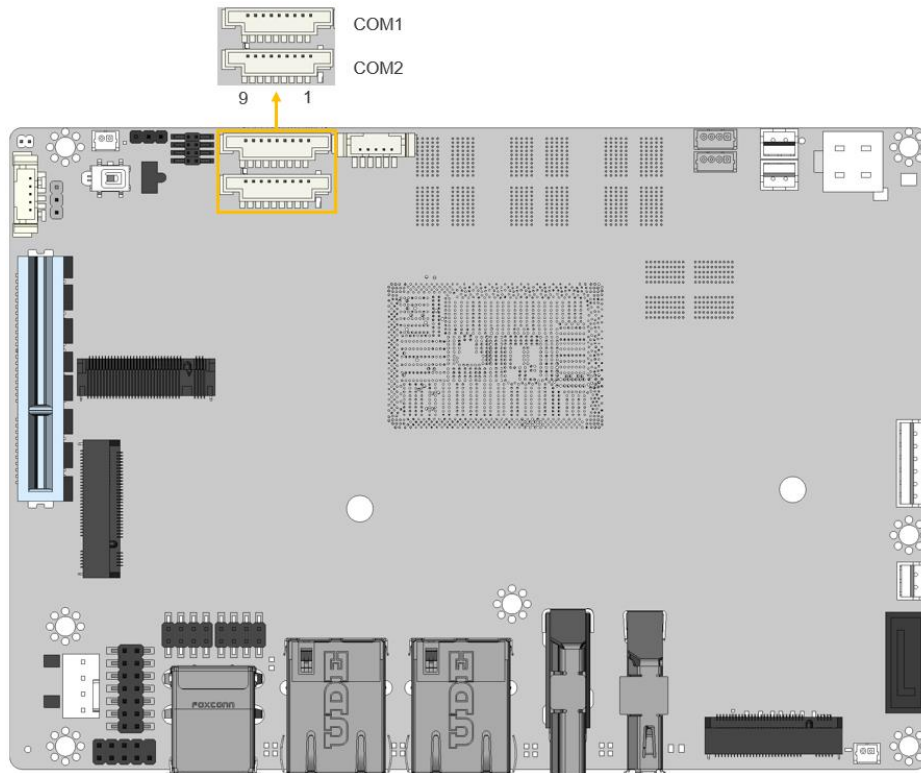

Figure 3-15: RS-232 Serial Port Connector Location
- CN Location:** See Figure 3-15